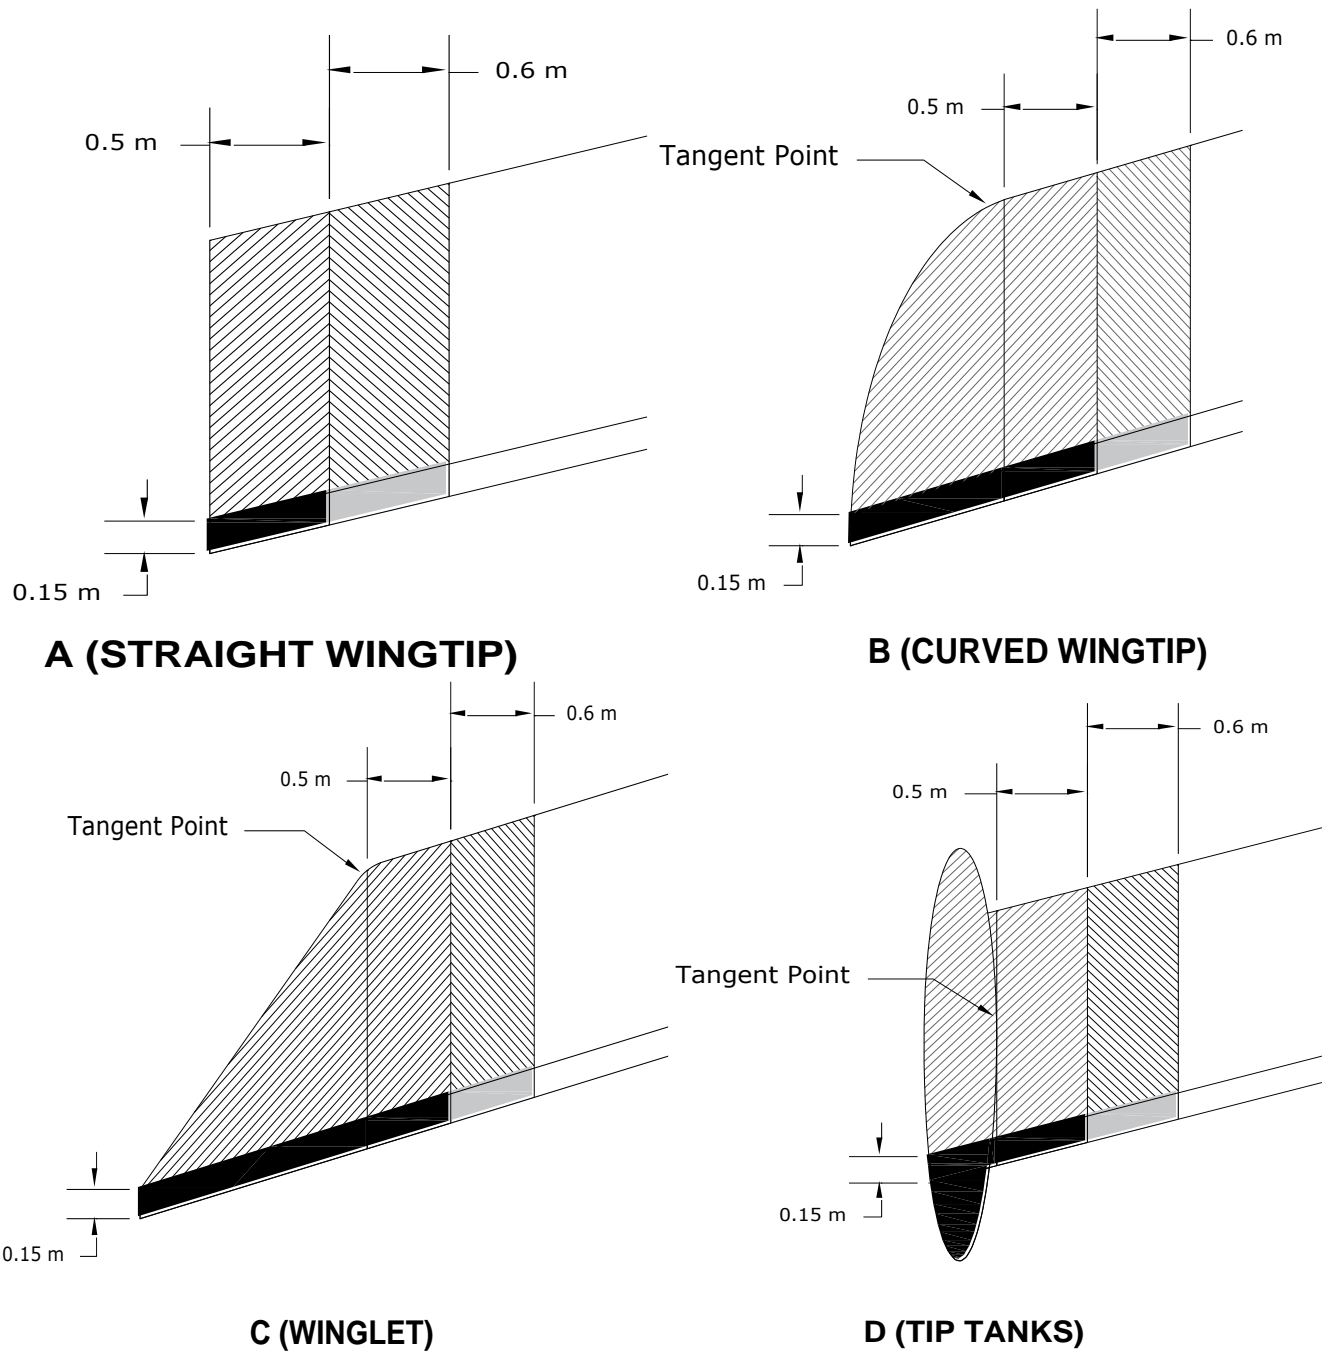

Figure 6-28 Zoning for Wingtips on Aircraft Not Limited to VFR Operation
Zoning of various types of wingtips is shown in Figure 6-28. Figure 6-28A shows zoning for straight wingtips. Figure 6-28B shows zoning for curved wingtips. The zones are similar to those of straight wingtips. The main difference is that Zone 1 extends from the outboard edge of the wing past the tangent point of the chord and 0.5 meters inboard.
- Zone 1A/1B finishes as shown in Figure 6-29 **or** 0.5 meters inboard from the inboard edge of the position light, whichever is the greater distance from the outboard edge of the wing tip, as shown in Figure 6-28